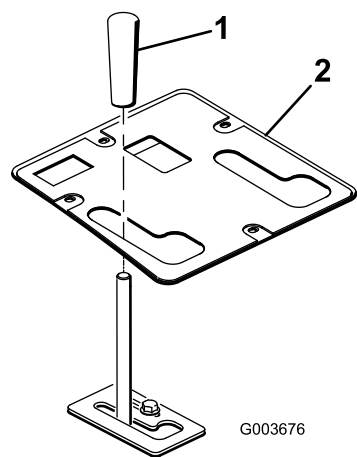

Figure 18
10. Secure the control panel in place with the fasteners previously removed (Figure 18).
11. Install the knob onto the lift lever (Figure 18).